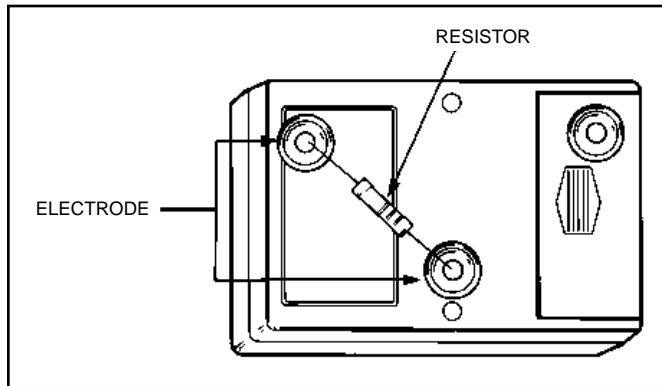

Figure 7. Calibration of the Mini Meg
A check on the function of the Mini Meg can be performed with the following procedure. You will need 1% resistors of the following values: 100K, 1M, 10M, 100M, 1G and 10G ohms. These precision resistors will be placed across the two electrodes on the bottom of the meter (see Figure 7).
B. Place the 10G ohm resistor across the middle electrode and the side electrode as illustrated in Figure 7. Press the test button. The second LED should light. Be sure not to contact the leads or the buttons as your body's resistance will affect the readings.